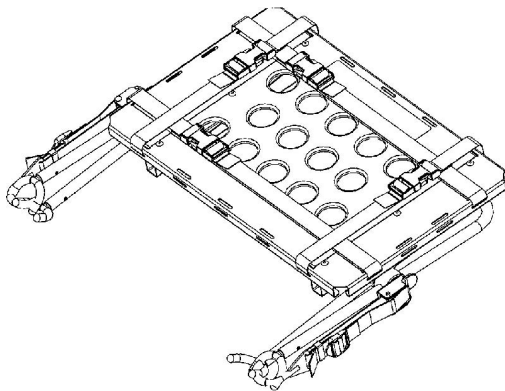

Figure 24 – Stored position
1. Place the defibrillator platform in the stored position (Figure 24).